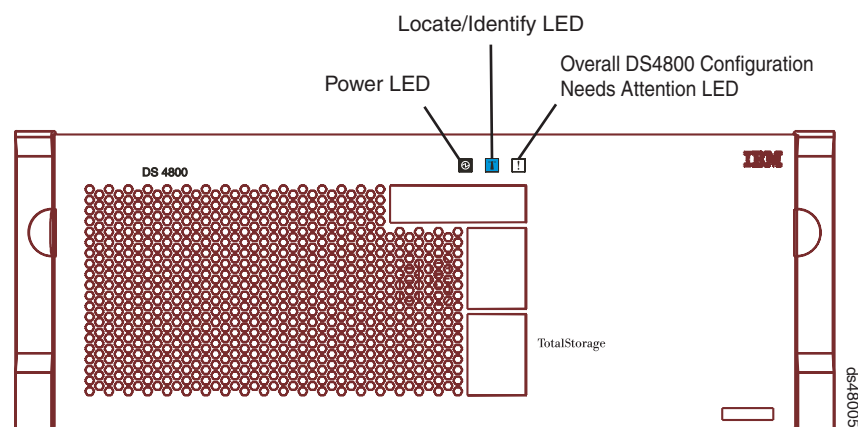

Figure 88. Overall DS4800 Configuration Needs Attention LED on the DS4800 front bezel
2. Locate the storage subsystem that contains the failed power supply-fan by checking the Overall DS4800 Configuration Needs Attention LED on the front bezel of the storage subsystem. (Figure 88 shows the location of the Overall DS4800 Configuration Needs Attention LED on the front bezel.)